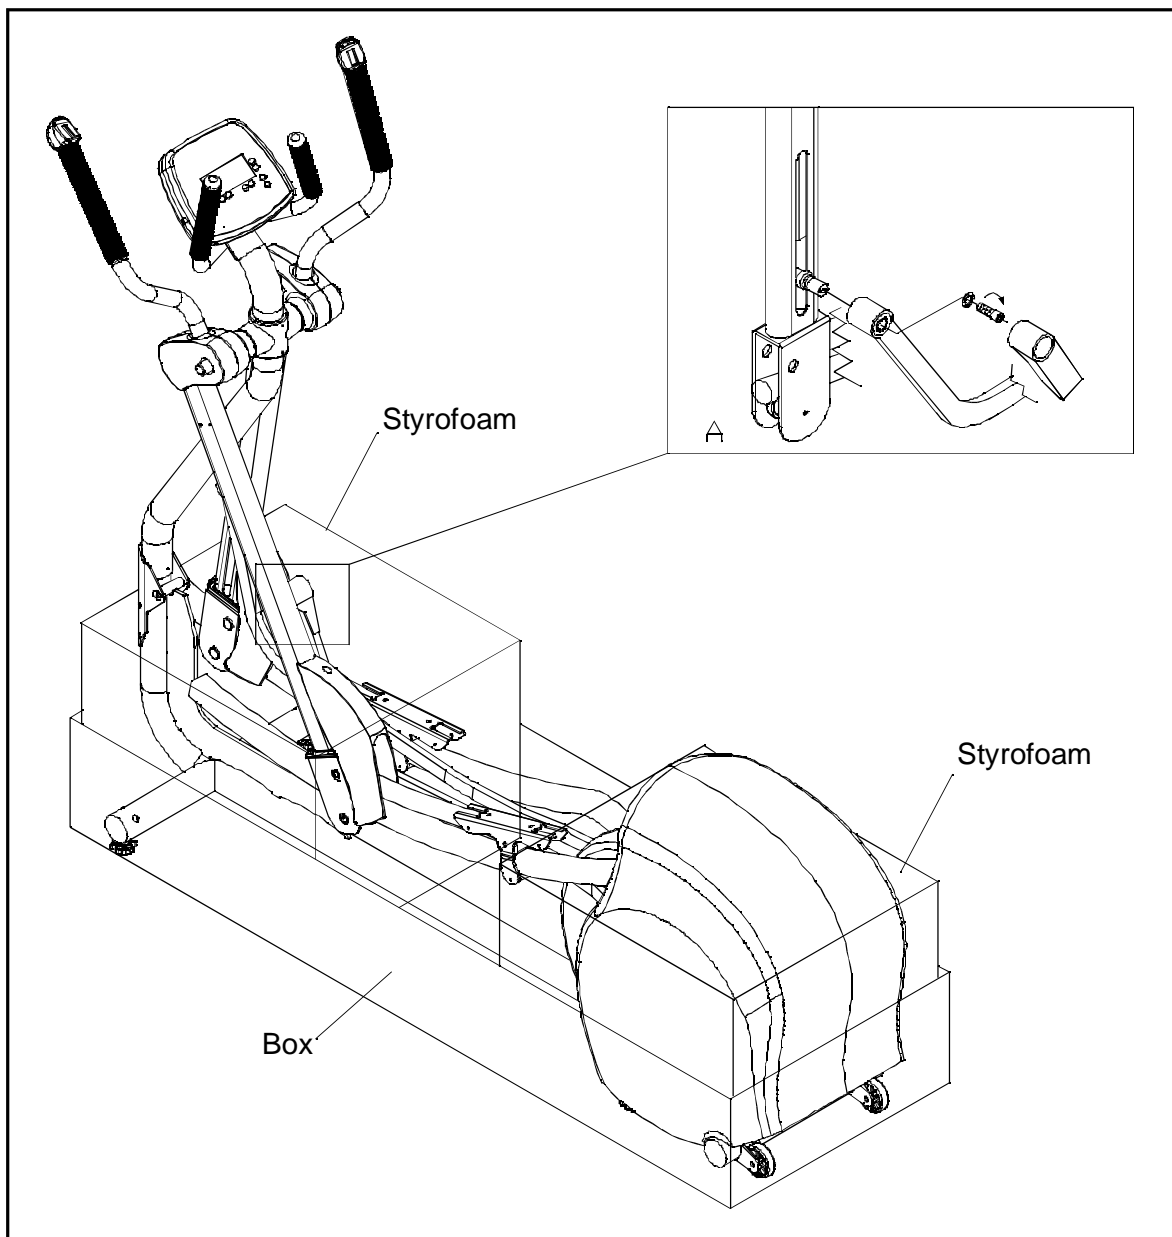

Fig.4
Note: Do not remove the lower box and Styrofoam until you finished assembly step 5 (see Fig. 4).
5. Insert the protrusion on the linkage into its place on the rocking bar and secure with screw as shown in diagram A, then cover with the end cap. Following that remove all the Styrofoam and packing box. (see Fig 4)